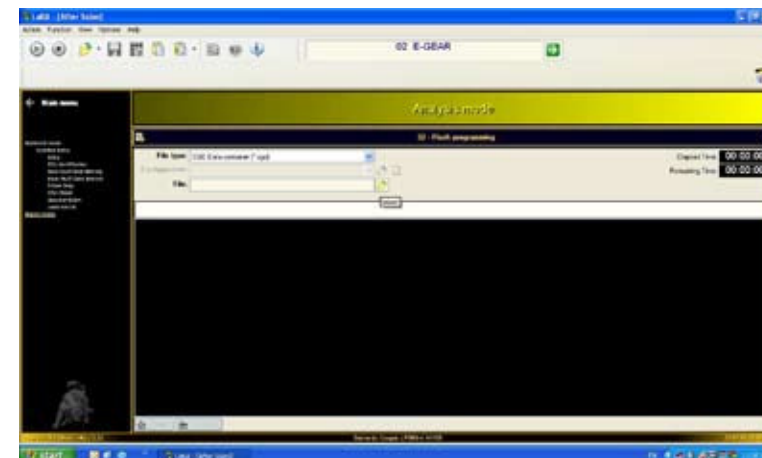

Fig.119
5. Select the type of file (Fig.119).